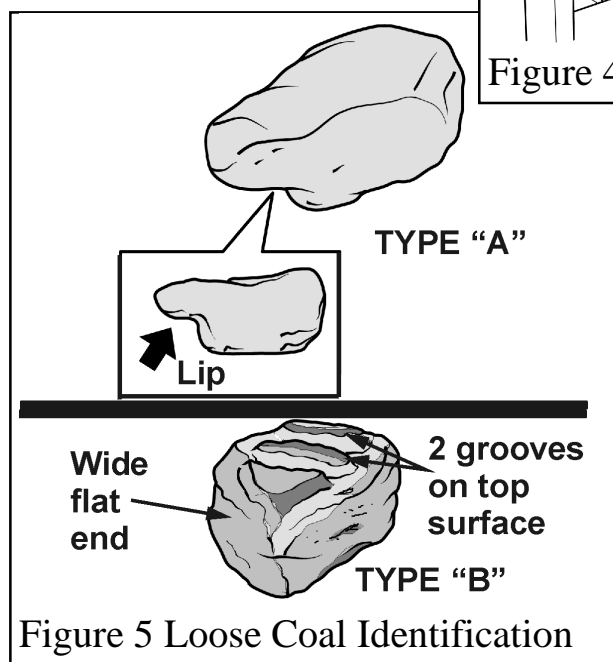

Figure 5 Loose Coal Identification
4. There are two types of loose coals. Type "A" coals have a prominent lip. There are three coals of this type. Type "B" are squarer than type "A" and have two grooves on their top surface. The coals are shown in figure 5. Identify these coals before attempting to fit them.